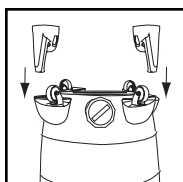

FIGURE 8
8. With tank drain facing you, attach hose holder **A** to caster foot **A**, and hose holder **B** to caster foot **B**. **FIGURE 8.**